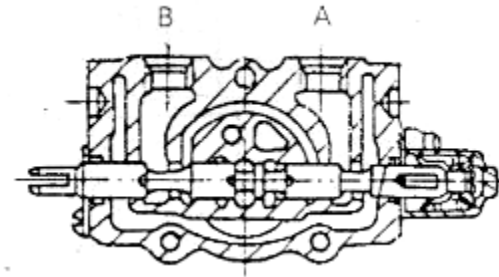

Fig 7-3
(2) Push-in Spool Valve (Fig 7-3):